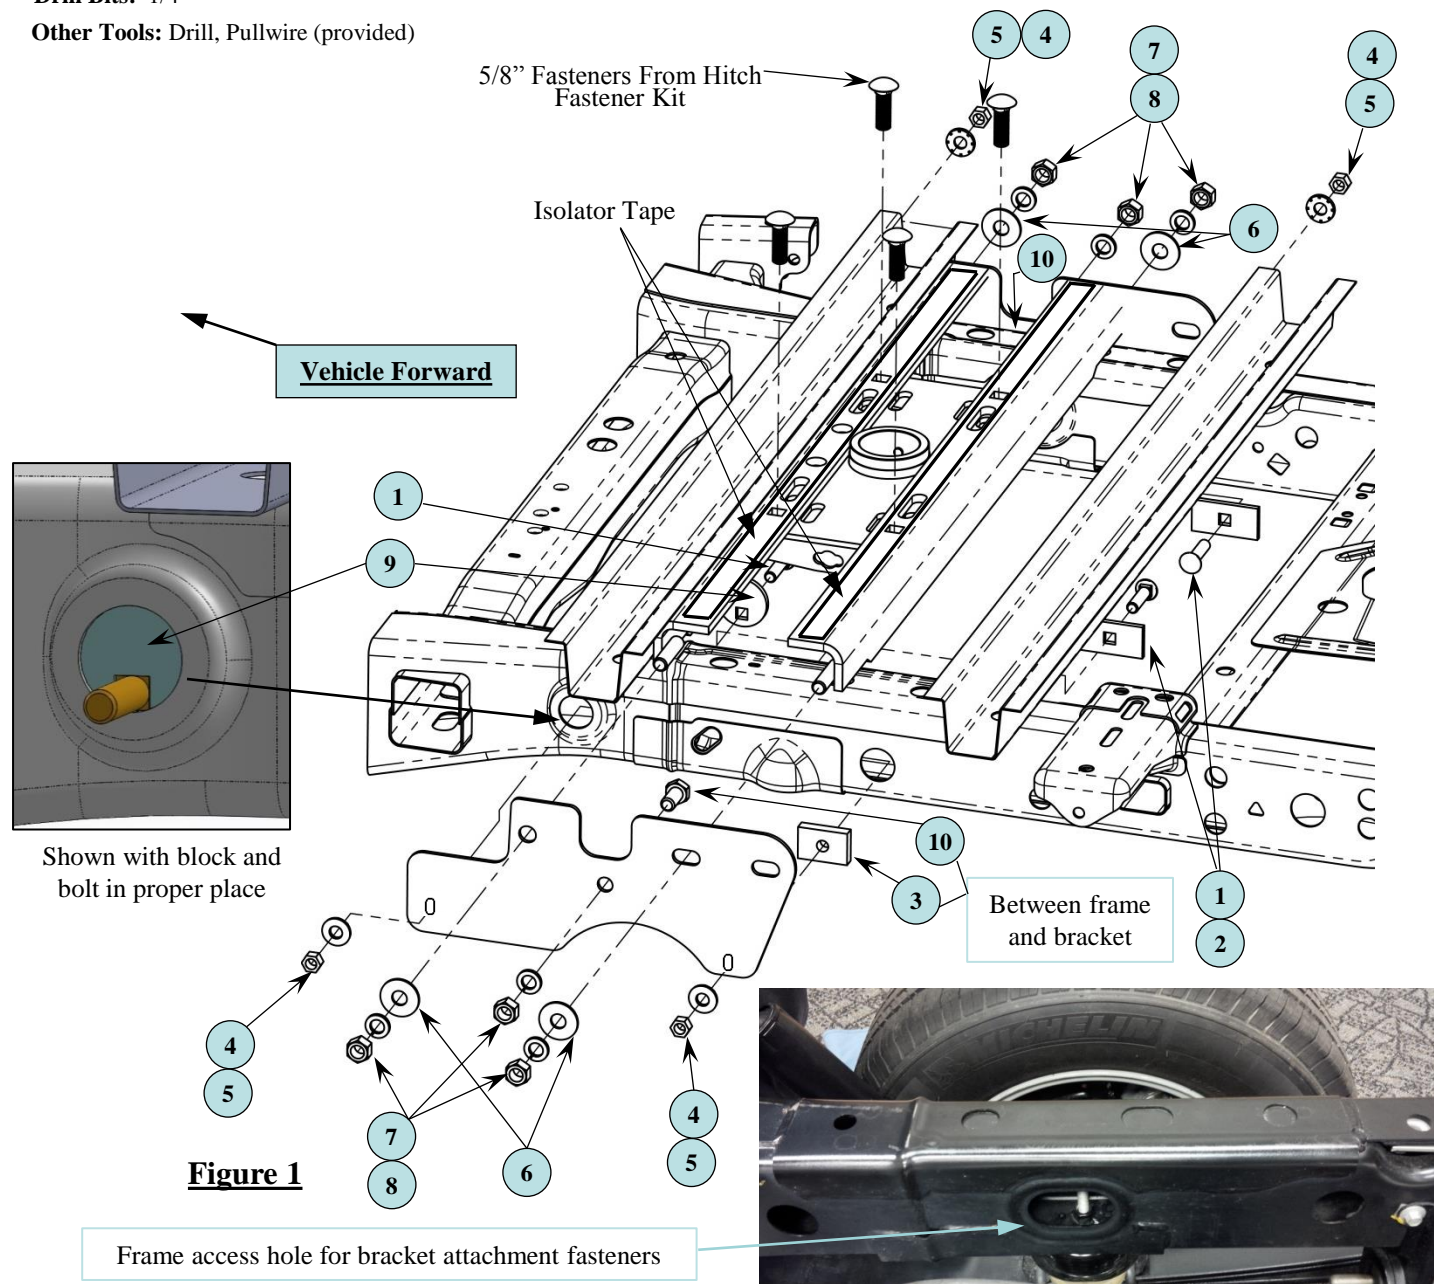
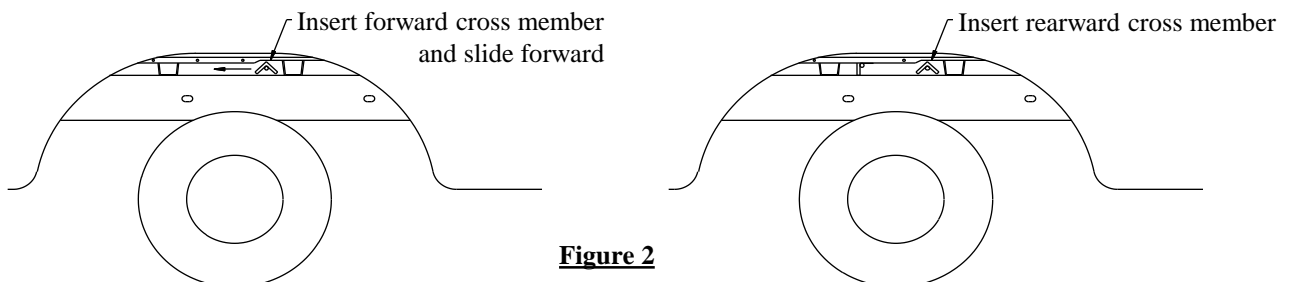

Figure 1
Figure 2
1. Slide the forward and rearward cross members between the frame rail and the bed of the vehicle as shown in Figure 2. The forward cross member has (2) additional hole, see figure 1.
4. **Center spacer** - install 5/8-11 x 1.25 bolts, lock washer and nuts (item 7,8, and 10) in frame bracket as shown. When installed on truck, the head of this bolt will be next to the frame and act like a spacer between frame and bracket. Caution, this will now make the brackets right-hand and left-hand.
6. **Frame mounting** – One side at a time, slide block (item 3) in place and use the pull wires to insert the 1/2" carriage bolt and blocks into the mounting bracket location through the large slot on the inside of the frame. Take special note on orientation of the round block of the front frame mount. There is a hole on the inside of the frame that will allow you to check for proper placement of the block. Loosely install the 1/2" conical tooth lock washer and hex nuts to the frame bracket.